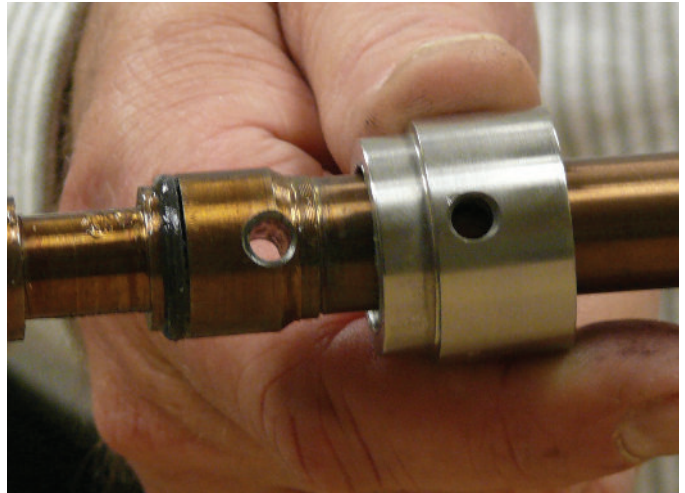

Figure 9-19 Align Spirol Pin Hole on O-ring Sleeve with Matching Hole on Shaft
3. Place O-rings (Items 3 and 4) on shaft. Slide O-ring sleeve forward and align spirol pin hole. (Figure 9-19)